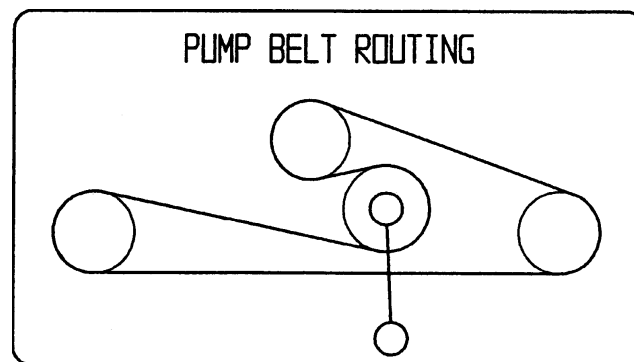

Figure 31
1. Pull spring loaded idler down and remove traction belt from the engine and hydro pump pulleys (Fig. 31). Remove belt between pulleys.
2. Install new belt around engine and hydro pump pulleys (Fig. 31).
3. Pull spring loaded idler down and align below traction belt. Release pressure on spring loaded idler (Fig. 31).